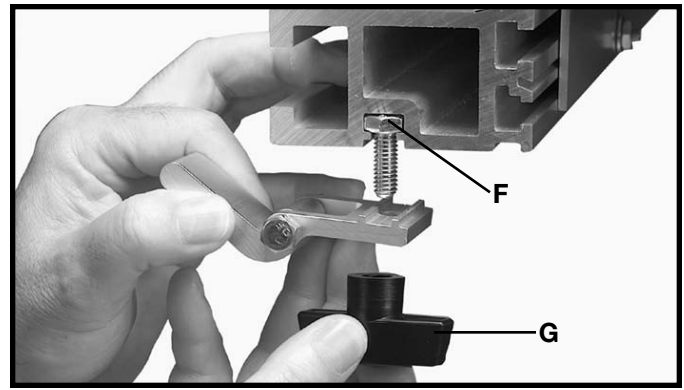

Fig. 62
6. To attach rail stop to unifence see Fig. 62.
1. The Flip Stop Assembly Fig. 62, can be set to any number of positions along the guide rail providing a quick stop setting for the Unifence body by loosening knob (G) and sliding the stop along the rail to the desired position and re-tighten.
3. If flip stop does not retract fully the bolt (F) Fig. 62, may have to be repositioned in the rail slot to allow the flip stop to retract fully. If bolt (F) needs to be repositioned, just slide the bolt out of the rail and turn the head of the bolt one third of a turn (one flat) and slide back into rail, repeat this until the bolt is in the right position for the flip stop to retract fully, as shown in Fig. 63.